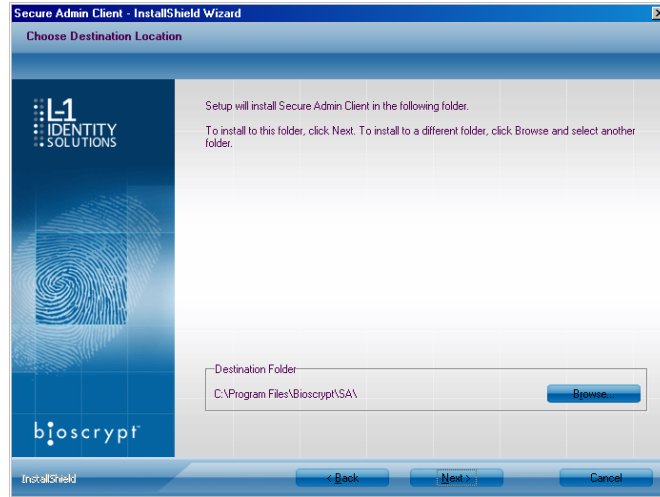

Figure 3-12: SecureAdmin Client Choose Destination Location
4. The L-1 EAS License Agreement is displayed. Select the appropriate radio button to agree with the terms and then click the **Next** button. The Choose Destination Location screen is displayed (see Figure 3-12) on the next page.